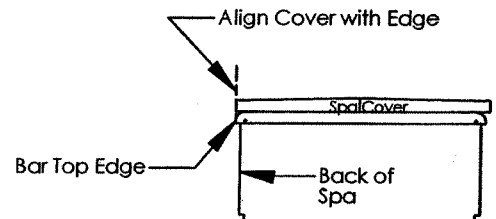

Figure 1
B. Stand at the back of the spa and align the edge of the Spa Cover with the Bar Top Edge. See Figure 1.
D. Install (2) Side Hinges & (2) Rear Hinges on the spa cover as described below:
(Refer to Fig. 1 on page 2). This is the FINAL Position of cover!**